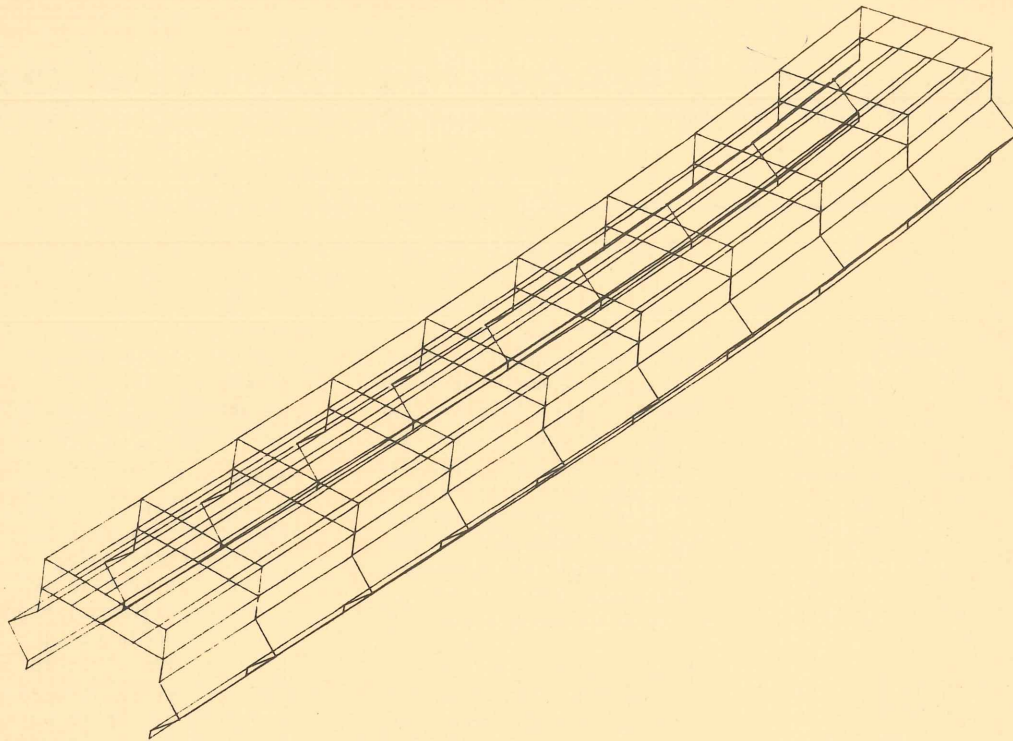

Figure 3. A finite element model of the 4663 Plotter pen rail with a box structure attached to the top of the rail for additional stiffness.
analysis and FEM 181 (a 4081 finite element modeling program): how much stiffer would the rail be if we (1) doubled the side thicknesses, (2) doubled the top thickness, (3) doubled both side and top thicknesses, or (4) added a .275-inch high box structure (see figure 3) to